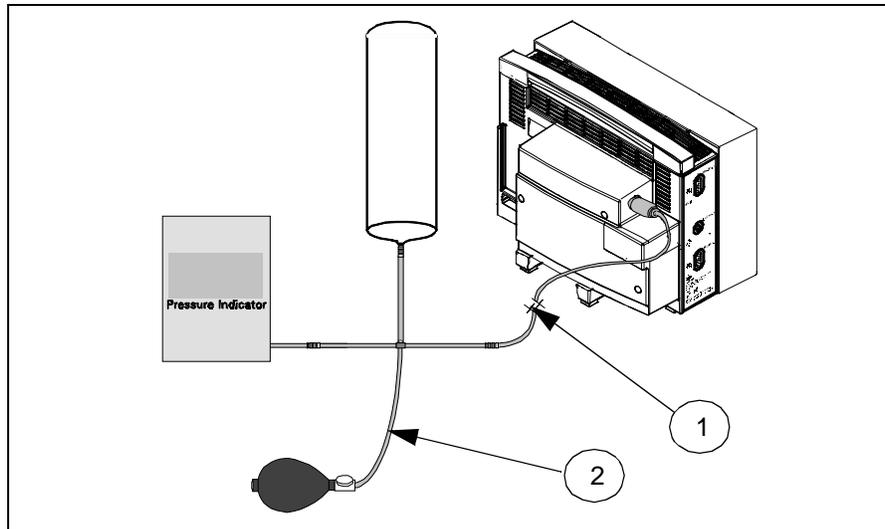

Figure 4-1 NBP Calibration Check / Calibration Test Setup
Set up the NBP Calibration assembly (Art. No. 28 77 855 EE54U) as illustrated in Figure 4-1. Assure that pneumatic leakage is within specifications before continuing to Section 10.2, Calibration Check.
- 3) Clamp pneumatic hose (with hemostat or clamp) between T-connector and monitor (① in Figure 4-1), and using pressure bulb, increase pressure to 250 ± 5 mmHg. Then clamp hose at inflation bulb (② in Figure 4-1), and let pressure stabilize for 1 minute. *Do NOT run pump.*